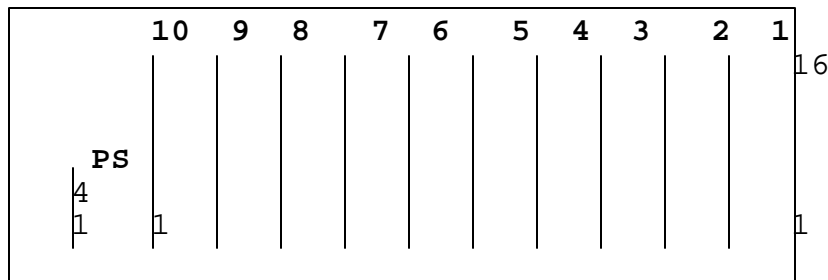

Fig. 1
Step 2) Connect the Outside Room Panels for ROOMS 1-7,LASER AND MINOR SURGERY to their correct Room Strip. Room Strips are located in the Breakout Box. Rooms 1-7 correspond to Strips 1-7,LASER IS STRIP 8,MINOR SURGERY IS STRIP 9 respectively. They are configured running right to left as shown in Fig. 1.